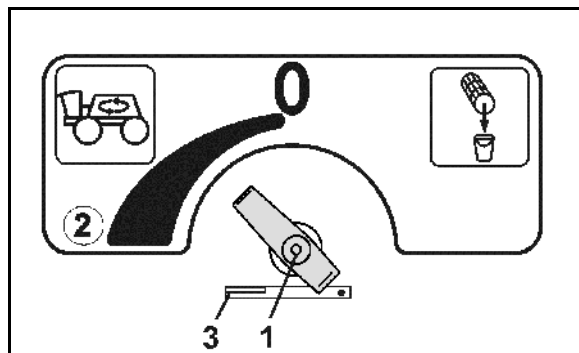

Fig. 72
- The additional agitator must be set on the setting tap (Fig. 72/1).
The additional agitator is switched off when in setting tap position 0. The fastest stirring performance is available in position (Fig. 72/2).
Safety device for drainage function on the pressure filter (Fig. 72/3).